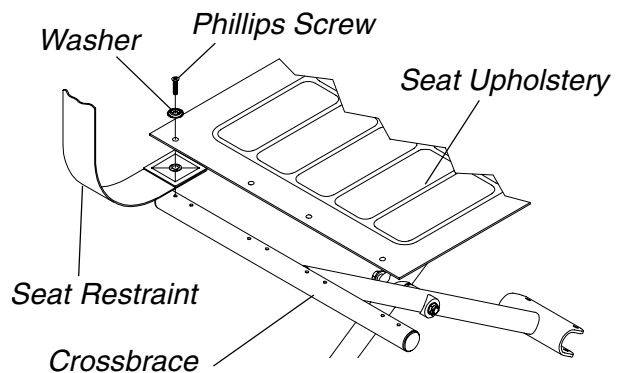

FIGURE 3 - REPLACING THE SEAT RESTRAINT
**REPLACING THE SEAT RESTRAINT (FIGURE 3)**
1. Remove the two (2) rear phillips screws and washers that secure the seat upholstery and seat restraint to the crossbraces.
2. Remove the two (2) halves of the seat restraint from the crossbraces.
3. Reposition the two (2) new seat restraint halves between the seat upholstery and the crossbraces.